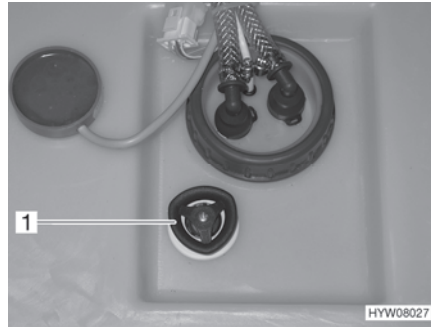

Fig. 144 Water tank with rotary handle
- Turn the rotary handle (Fig. 144,1) on the water tank in an anticlockwise direction as far as possible beyond the resistance to fully open the drainage opening.